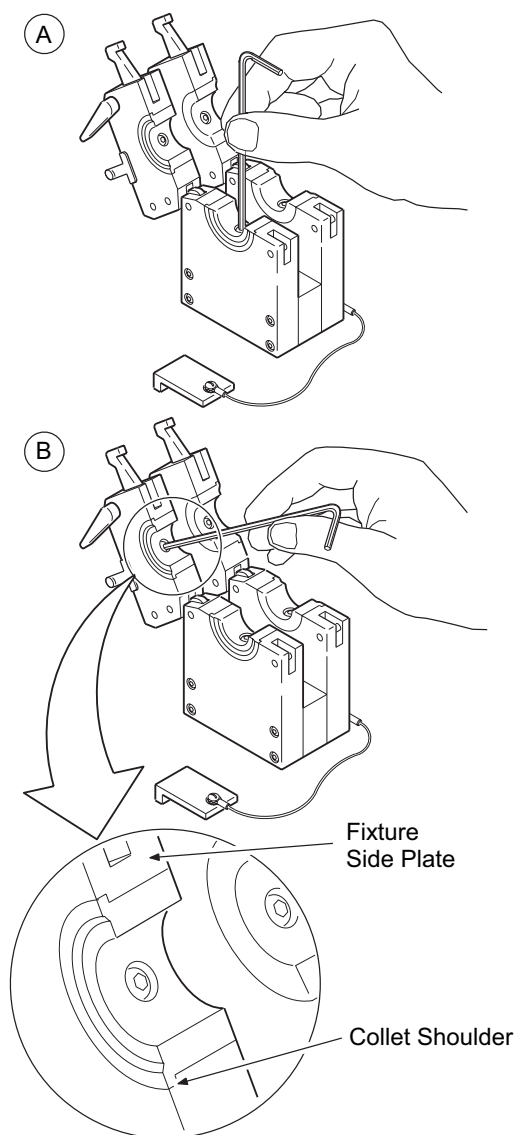

Figure 12 Installing Collets
2. Install the collet halves in both the top and bottom side plates and tighten the collet screws. Make sure the collet shoulder is flush against the fixture side plate. See Figure 12(B).